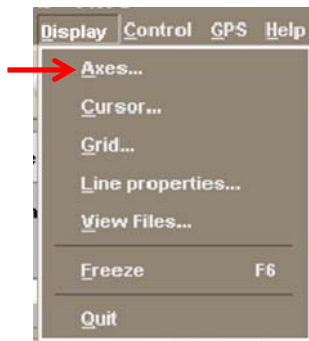

Figure 3-31: Axis menu
- Select “Axes...” (Figure 3-31).